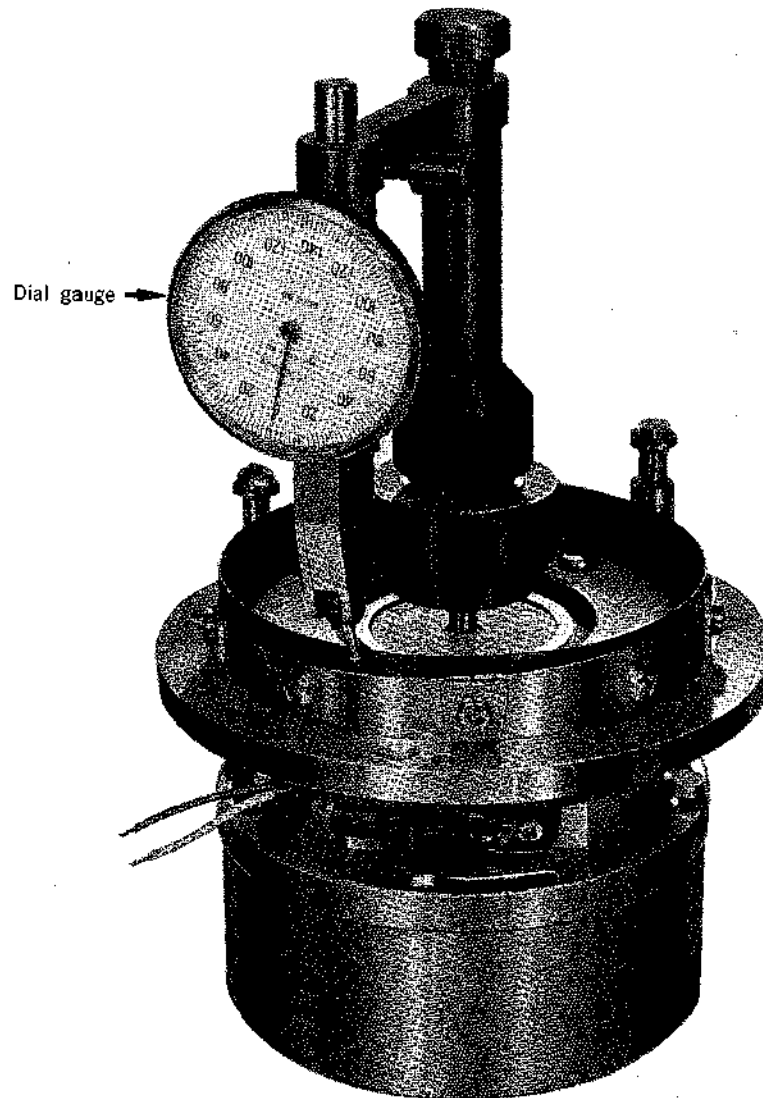

Fig. 6 Check the lower drum's degree of roundness
3. DEGREE OF ROUNDNESS OF VIDEO HEAD'S LOWER DRUM (Ref. Fig. 6)